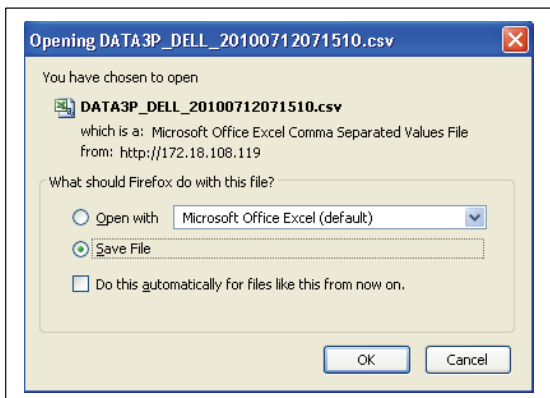

Figure 42. File Download Dialog Box
- 4 Choose to open or save the current log file and click **OK** or **Cancel** (see Figure 42).